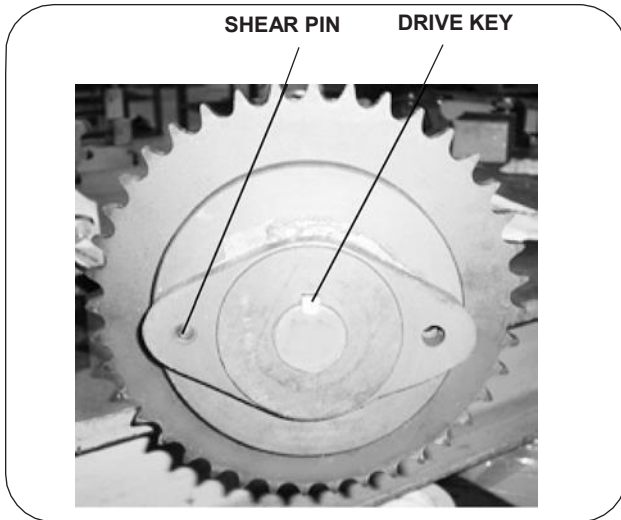

Figure 8. Driven Sprocket Shear Pin and Drive Key
B. If the driven sprocket turns but the headshaft does not, check the drive key to ensure that it is not sheared (see Figure 8). If the key is not sheared, see “Replacement of Headshaft Shear Pin.”
C. If the headshaft turns, but the metal belt does not move, inspect the headshaft sprocket pins or keys. See Figure 8. (In some cases, a sprocket key is used instead of a pin.) If the pins or keys are damaged, refer to “Removal of Headshaft Assembly” below.